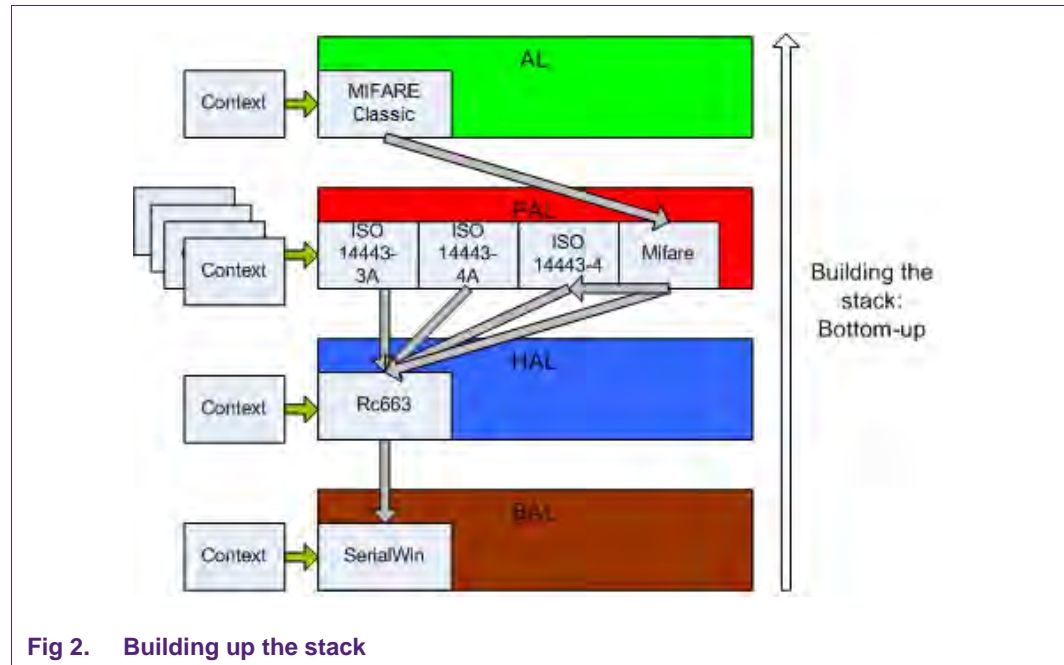

Fig 2. Building up the stack
In order to use the software library a stack of components has to be build up from bottom (BAL) to top (AL) layer. Fig 2 shows the various elements to build up a full software stack on the PC site for contactless card communication.
Therefore, according the example shown in Fig 2, SerialWin BAL parameter structure has to be allocated
Independent layers functions of the library are not part of the layered approach. Before using related operations within the provided functions, the dedicated component has to be initialized. For instance regarding our example depicted in Fig 2, Key Store is aimed to be used to store keys used for later authentication: